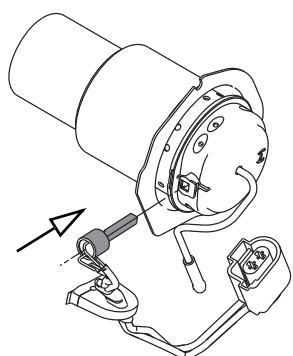

Fig. 910 Installing glow plug
1. Position combustion pipe with evaporator mount horizontally toward rear (see Fig. 910).